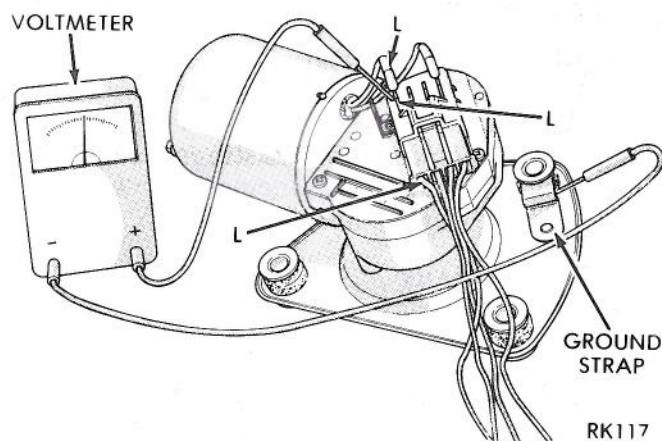

Fig. 3—Voltmeter Between Terminal "L" and Ground
(4) Connect a voltmeter or a test lamp between motor Terminal L and ground strap (Figs. 3 and 4). If there is no voltage, check wiring and switch. If there is approximately 12 volts at Terminal "L" or test lamp lights, problem is: